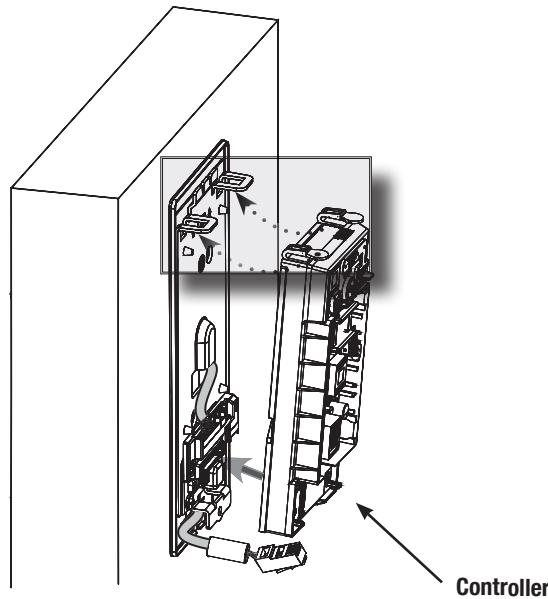
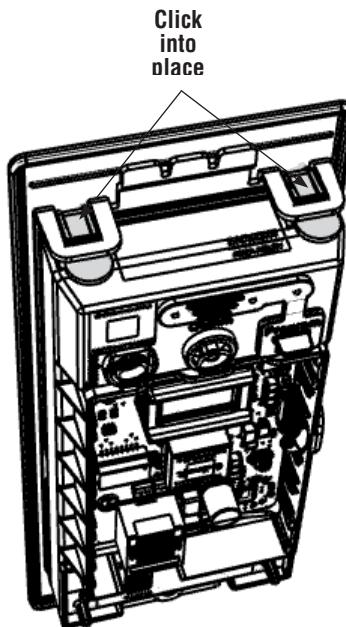

Fig. 17d
Fig. 17e
1. Insert bottom tab of controller (ensure a clear path) into slot on mounting plate (Fig. 17d, e).
2. Ensure proper alignment of board-to-board connectors (Fig. 17e) while pivoting controller toward door until two tabs on top click securely into place on mounting plate (Fig. 17d).